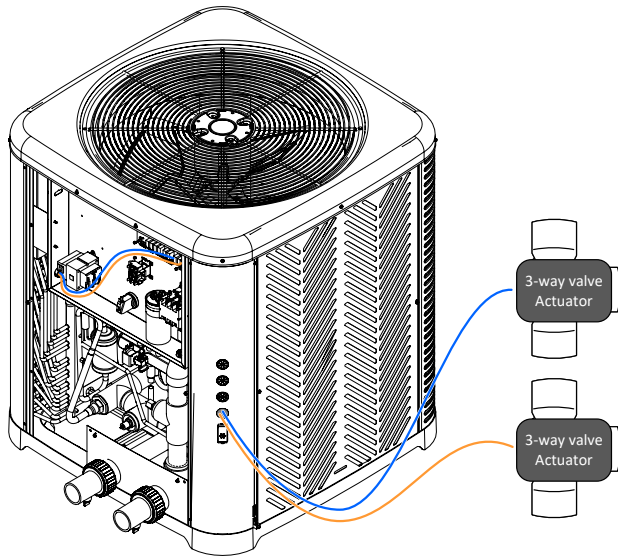

Figure 136. Wiring Valve Actuators
1. Follow the general instructions for wiring external devices to connect the valve actuator(s) harness from the valves to the control board of the heater. See Figure 136.